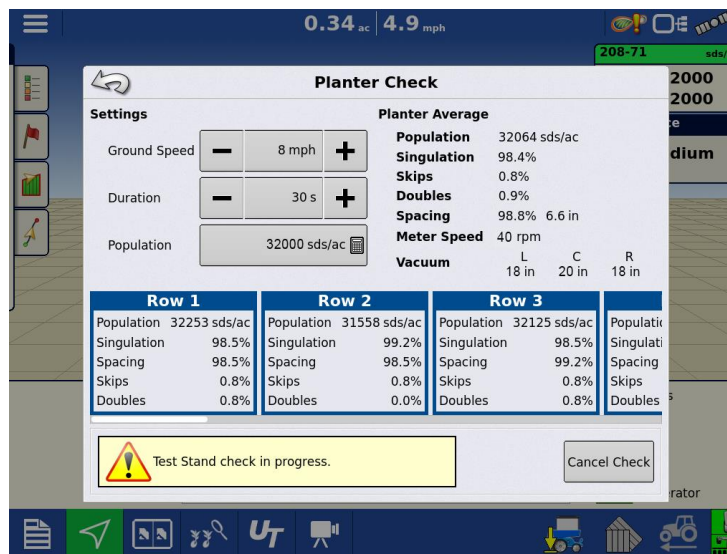

Figure 2 – SureSpeed™ planter performance check
- **NEW:** SureSpeed™ planter performance check & report (Figure 2)